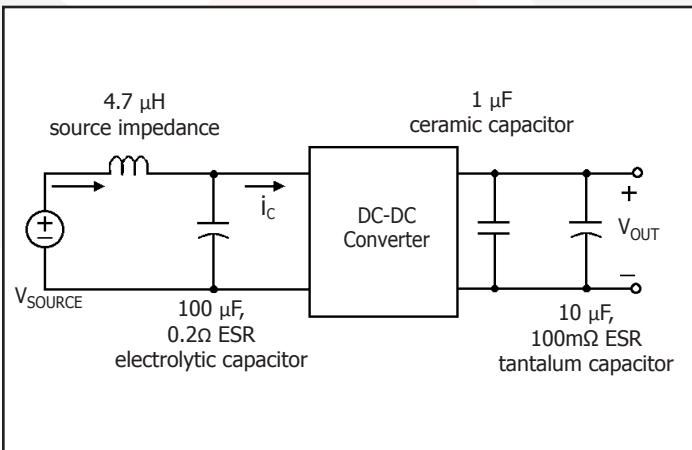

Figure 17: Test set-up diagram showing measurement points for Input Terminal Ripple Current (Figure 9) and Output Voltage Ripple (Figure 10).
**Figure 9:** Input terminal current ripple,  $i_C$ , at full rated output current and nominal input voltage with SynQor MCOTS filter module (1A/div). Bandwidth: 20MHz. See Figure 17.
**Figure 10:** Output voltage ripple,  $V_{out}$ , at nominal input voltage and rated load current (20mV/div). Load capacitance: 1µF ceramic capacitor and 10µF tantalum capacitor. Bandwidth: 20 MHz. See Figure 17.